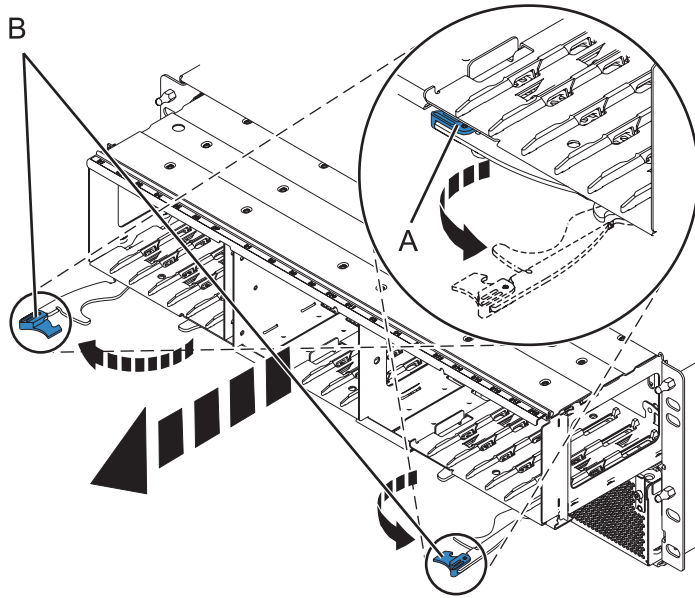

Figure 75. Removing the backplane from the enclosure
6. Remove the backplane as shown in Figure 75 on page 94.